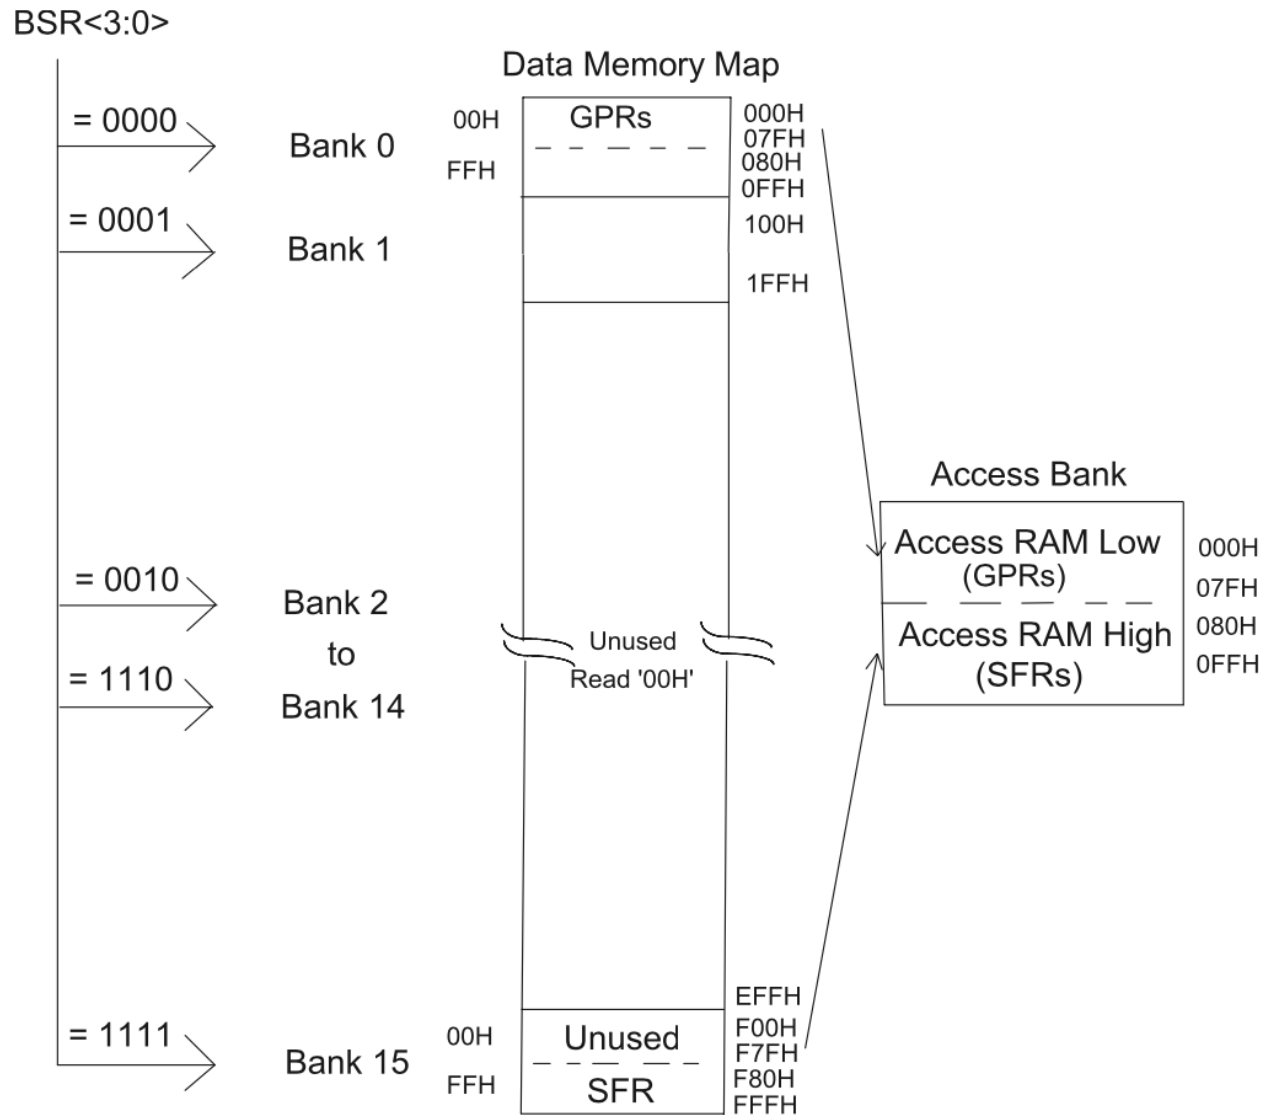

FIGURE 5.7 PIC18F4321 Data Memory Map
- The PIC18F data memory is also called “file register” or “data register” by Microchip. Figure 5.7 shows the data memory organization of the PIC18F4321. The size of the PIC18F4321 address is 12-bit wide and the contents are 8-bit wide. With 12-bit address, the PIC18F4321 can have a data memory of up to 4096 (2^{12}) bytes; 12-bit address (addresses from 0x000 to 0xFFF) is needed to address each location.
- the last 128 bytes of RAM (addresses 0x80 - 0xFF) in bank F called “Access RAM High” as shown in Figure 5.7.
- These two areas are mapped contiguously in the Access Bank and can be addressed in a linear fashion by an 8-bit address (Figure 5.7). It is convenient to use access bank for file registers. The user does not have to worry about bank switching. Hence, one should use access bank whenever possible. Note that upon power-up, the PIC18F uses the access bank of the file registers as the default bank.